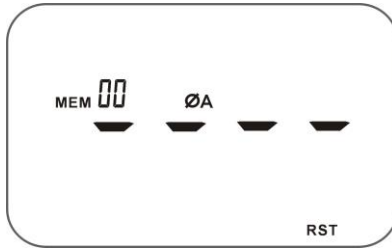

figure 25
(2) Three horizontal line from top to bottom on behalf of A, B, C phase, Such as lack of one phase, will be displayed. Lack A Phase will missing the top of the horizontal line. Lack B phase will missing the bottom of the horizontal line. As shown in Figure 25, on behalf of lack of A phase voltage.